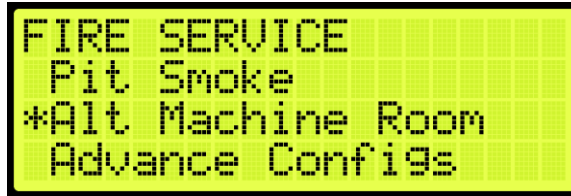

Figure 564: FIRE SERVICE Menu – Alt. Machine Room
2. From the FIRE SERVICE menu, scroll and select Alt. Machine Room (See Figure 564).
1. Navigate to MAIN MENU | SETUP | FIRE (See Figure 564).